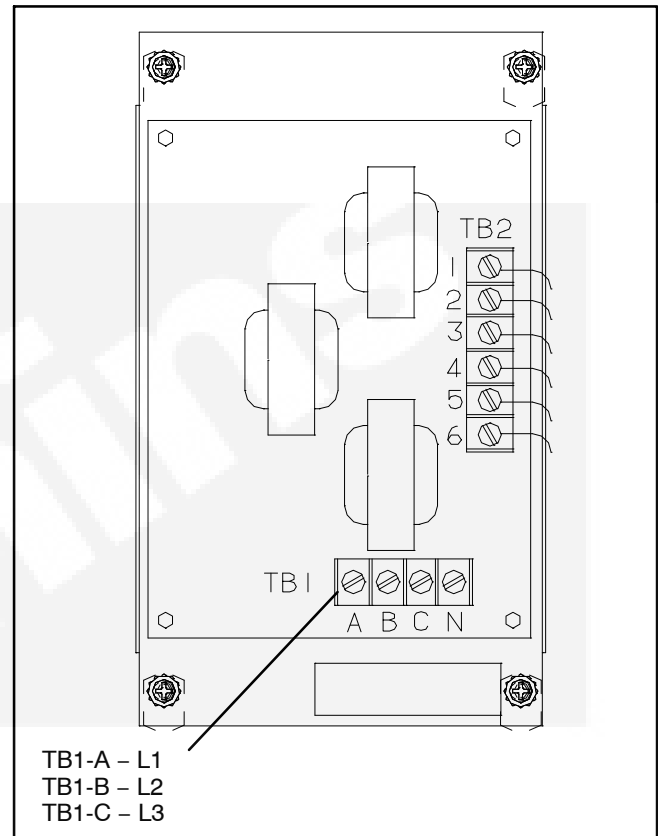

FIGURE 3-10. BUS PT MODULE
2. With all gensets OFF, attach a calibrated voltmeter to TB1-A (L1) and TB1-B (L2) of the bus PT module (Figure 3-10).